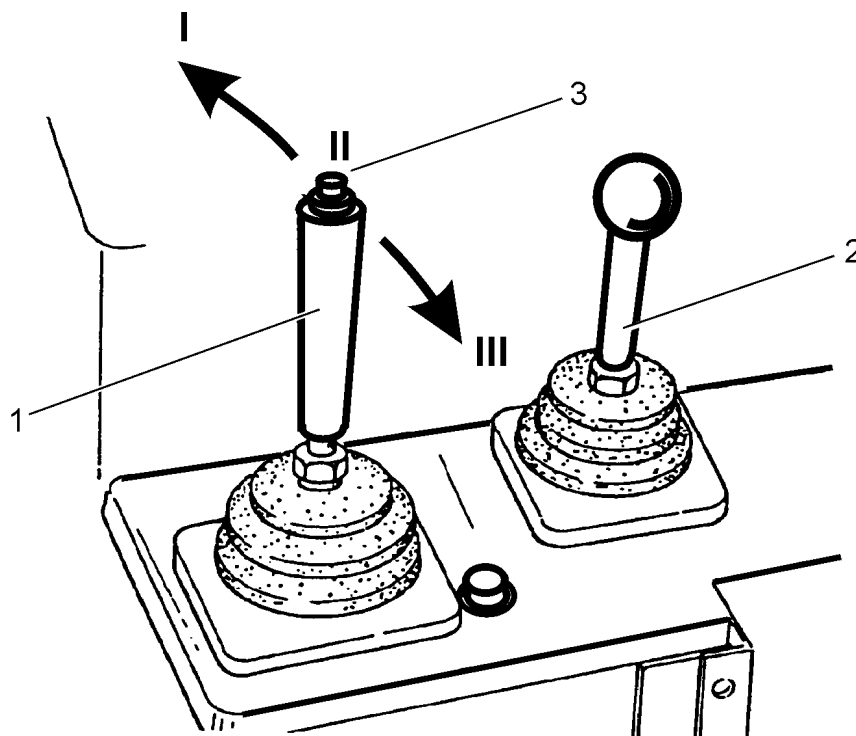

Fig. 4.22. Blade Pitch Control Lever Positions (1)
4.17.1.6. PITCH (FORWARD OR AFT) (Fig. 4.22)
1. To pitch the blade forward (increasing the suction angle), raise the blade several centimeters off the ground. Then depress button (3, Fig. 4.22) and hold it down while shifting the blade control lever to left (inwards) until the desired pitch is obtained.
2. To pitch the blade backward (decreasing the suction angle), raise the blade several centimeters off the ground. Then depress button (3, Fig. 4.22) and hold it down while shifting the blade control lever to right (outwards) until the desired pitch is obtained.